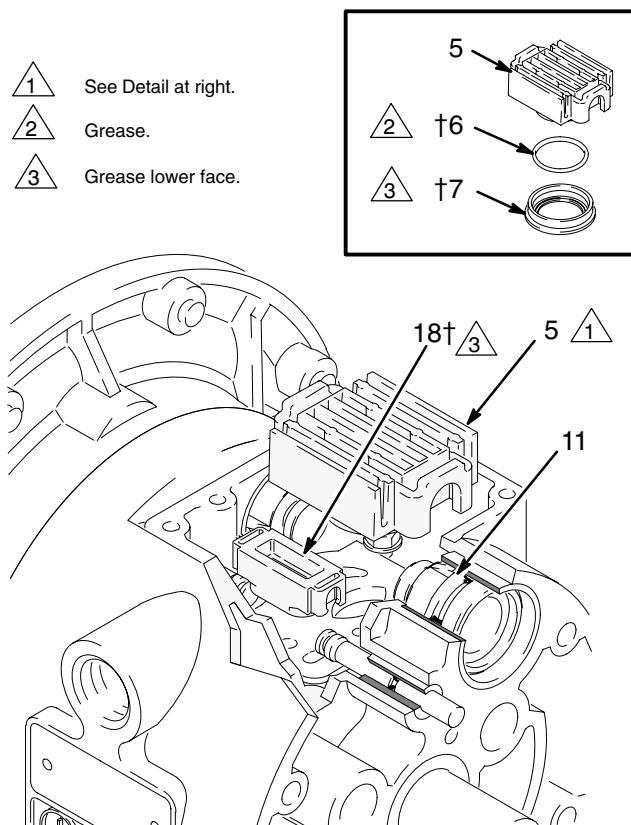

Fig. 9
3. Move the valve carriage (5) to the center position and pull it out of the cavity. Remove the valve block (7) and o-ring (6) from the carriage. Using a needle-nose pliers, pull the pilot block (18) straight up and out of the cavity. See Fig. 9.
7. Grease the lower face of the pilot block (18) and install so its tabs snap into the grooves on the ends of the pilot pins (16). See Fig. 9.
8. Grease the o-ring (6) and install it in the valve block (7). Push the block onto the valve carriage (5). Grease the lower face of the valve block. See Fig. 9.
9. Install the valve carriage (5) so its tabs slip into the grooves on the narrow end of the actuator pistons (11). See Fig. 9.